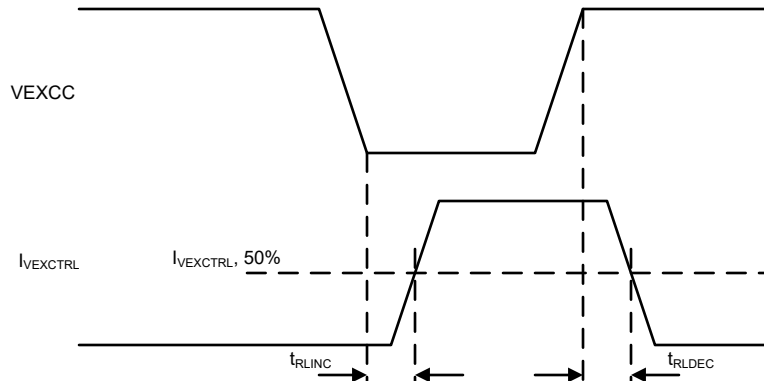

Figure 8-3. VEXCC versus $I_{VEXCTRL}$ Timing Diagram
- For limiting current through the external PNP transistor, it is important to connect VEXMON pin to the same power rail that connects to VSUP pin of the device using Rshunt as shown in Figure 8-3.